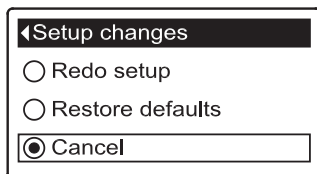

FIG. 83
1. From any of the rolling status screens, press the SELECT (O) button to display the **Main menu**.
3. Press the SELECT (O) button to display the Advanced settings menu.
5. Press the SELECT (O) button to display the Troubleshooting menu.
7. Press the SELECT (O) button to display the Setup changes menu (See Figure 83).
8. Press the RIGHT (►) button. The flashing padlock icon will disappear, as shown in Figure 83.
9. Press the SELECT (O) button.